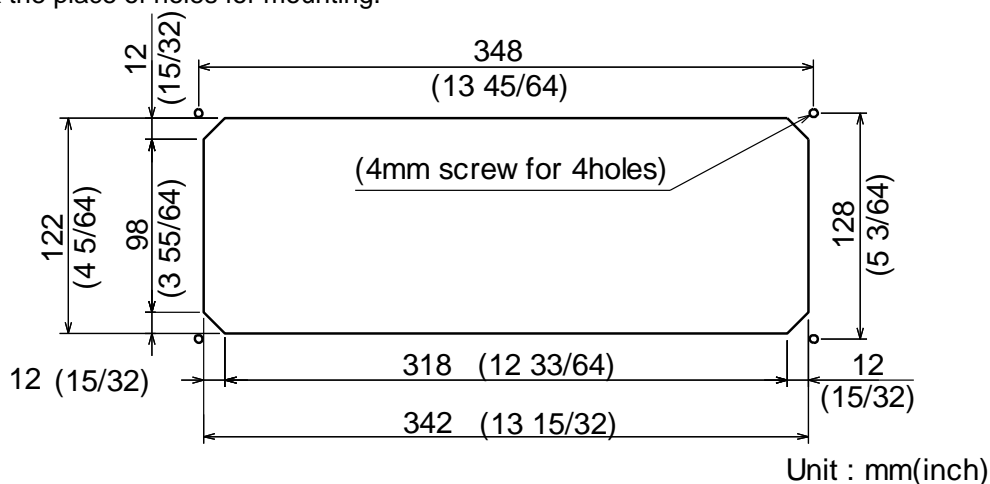

Figure 3.16 Diagram of processing holes for mounting an Operation panel
- (1) Cut an opening with the size as shown in Figure 3.16 on the side for mounting a Display unit on the panel.
- (2) Mark the place of holes for mounting.